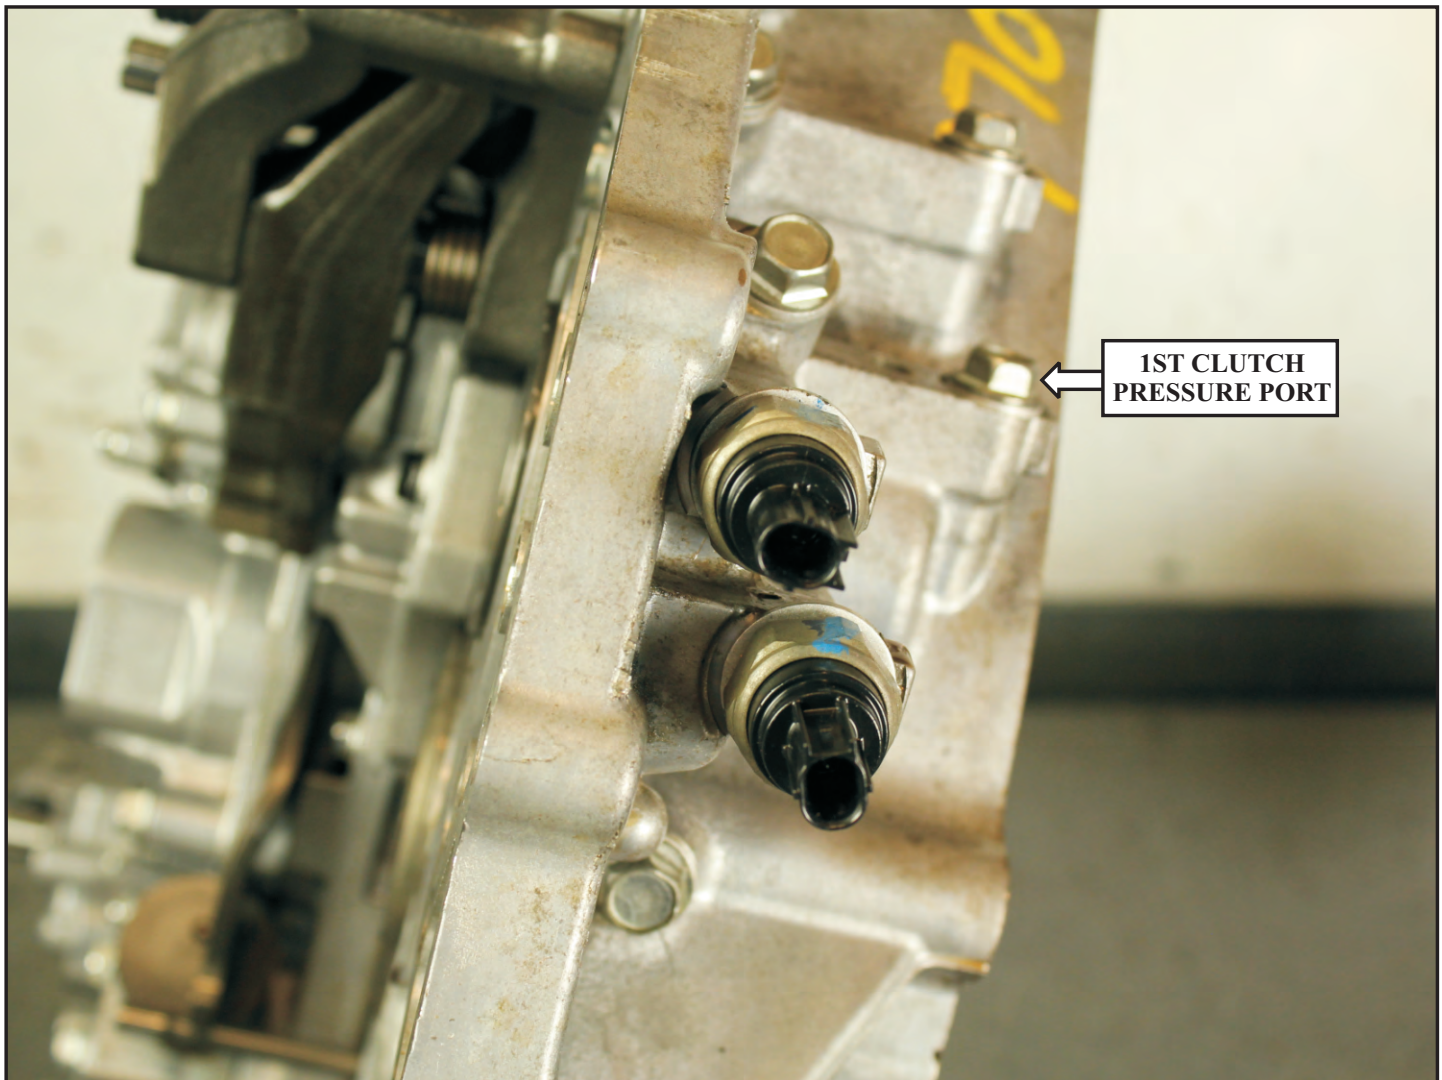

Figure 5
3. Connect the pressure gauge to the 1st clutch pressure port marked "1" seen in figure 5.